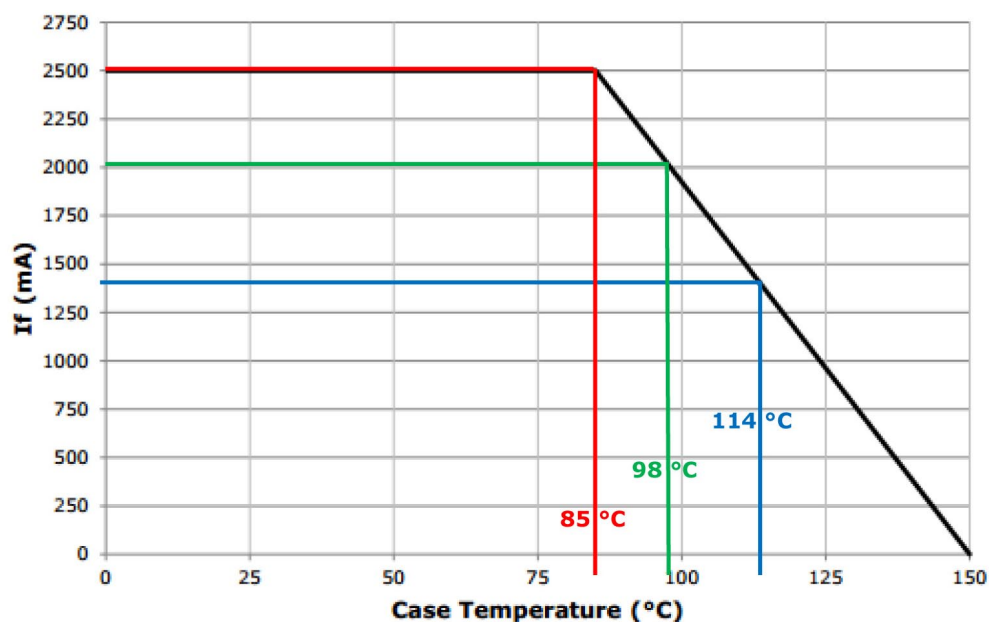

Figure 2: CXA3050 operating limits
8. Compare the measured  $T_c$  with the graph shown in Figure 2. The test is considered passed if the  $T_c$  at the test current level is less than the temperature on the graph. The measured maximum operating temperatures at the current levels in this test are shown in Figure 2.